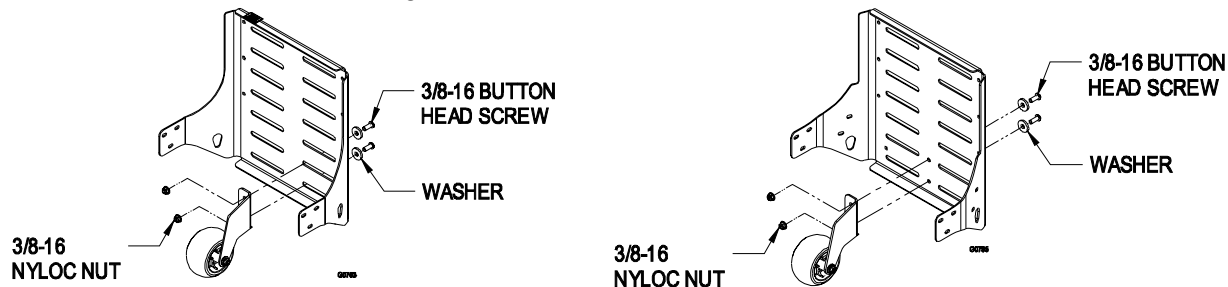

FIGURE 5
- 1.9.5 For non-commercial users locate roller bracket assembly (attached to crate) and install as shown in Figure 5.